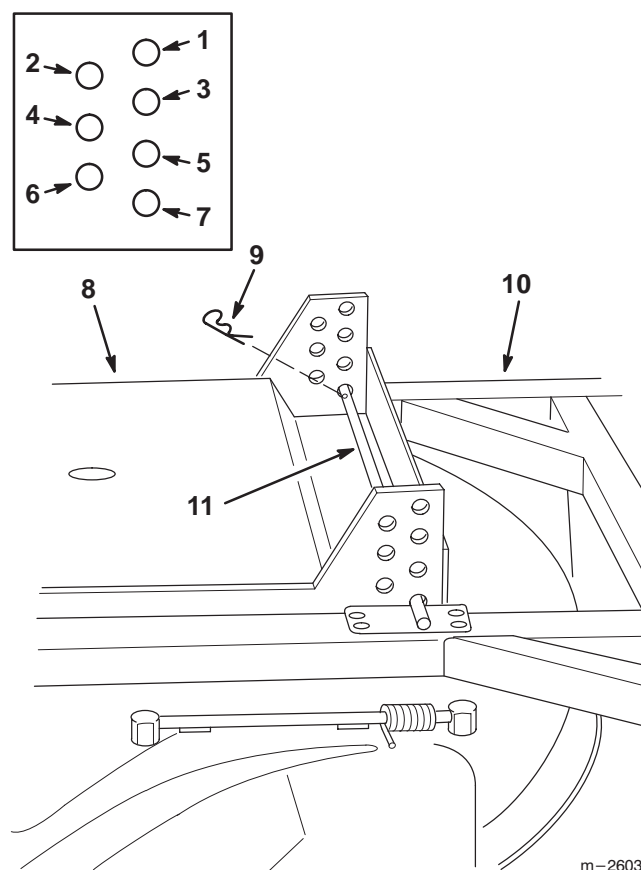

Figure 4
2. Mount the cutting deck to the carrier frame with the two (2) support rods and hairpin cotters (Fig. 4).
The height-of-cut is adjustable from 1" to 4" (26 to 102 mm), or 2" to 5" (51 to 127 mm) depending on the serial number of the traction unit to which the deck is attached. The height-of-cut is adjustable in 1/2-inch (13 mm) increments by removing the hairpin cotters, then relocating the support rods in different hole locations in the brackets at each corner of the cutting unit (Fig. 4).